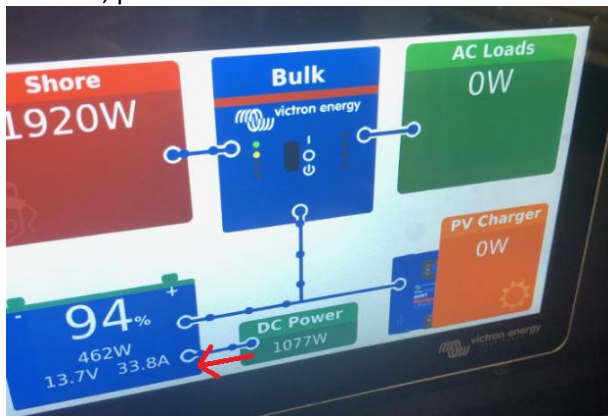

Figure 13
16. Hold the accelerator pedal to where RPMs are at 1200 or a little higher and check display screen. After a few seconds, power flow should move from DC Power to the battery. Figure 13